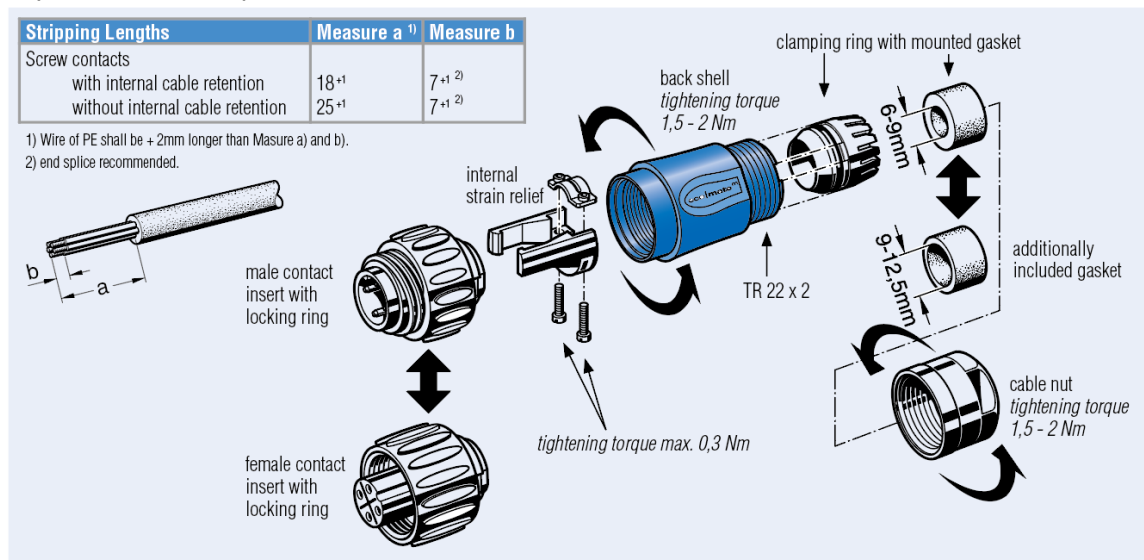

Fig.1 Connector Exploded View and Cable/Wire Strip Length
- Step 2: Strip the prepared cable including internal core wires by condition with dimensions of Fig.1.